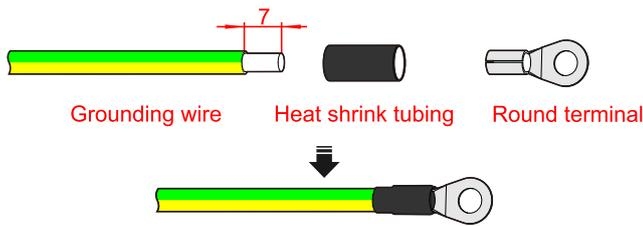

Figure3-15 Crimp the grounding wire (unit: mm)
- Step 1 Strip the insulation layer of the grounding wire by wire stripper,, and crimp it into the equipped round terminal, as shown in Figure3-15.